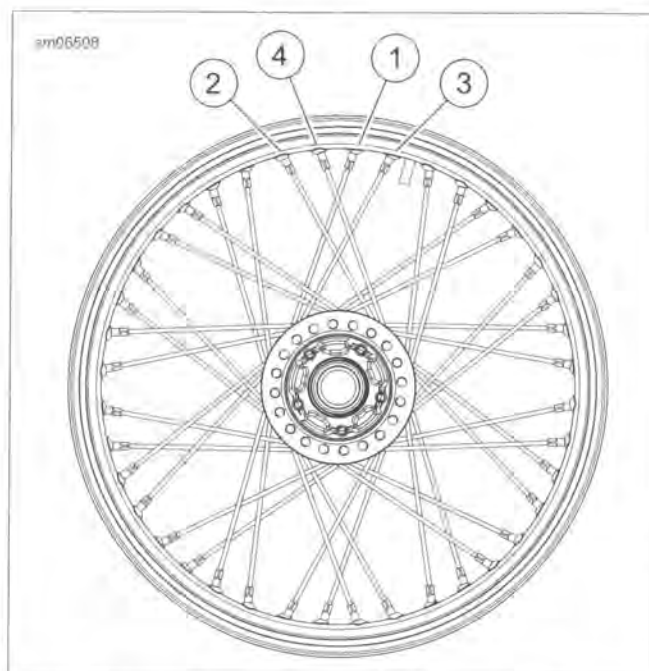

Figure 2-32. Flat Flange Hub, Single Row
10. See Figure 2-32. Beginning with the 2nd hole counterclockwise (1) from valve stem hole, install lower flange outer spokes (short head) in every 4th hole. Loosely install spoke nipples.
14. See Figure 2-32. Beginning with the first hole counterclockwise (3) from valve stem hole, install upper flange inner spokes (long head) in every 4th hole.
15. Rotate outer spokes (short head) counterclockwise and install in the remaining holes (4) in the rim.